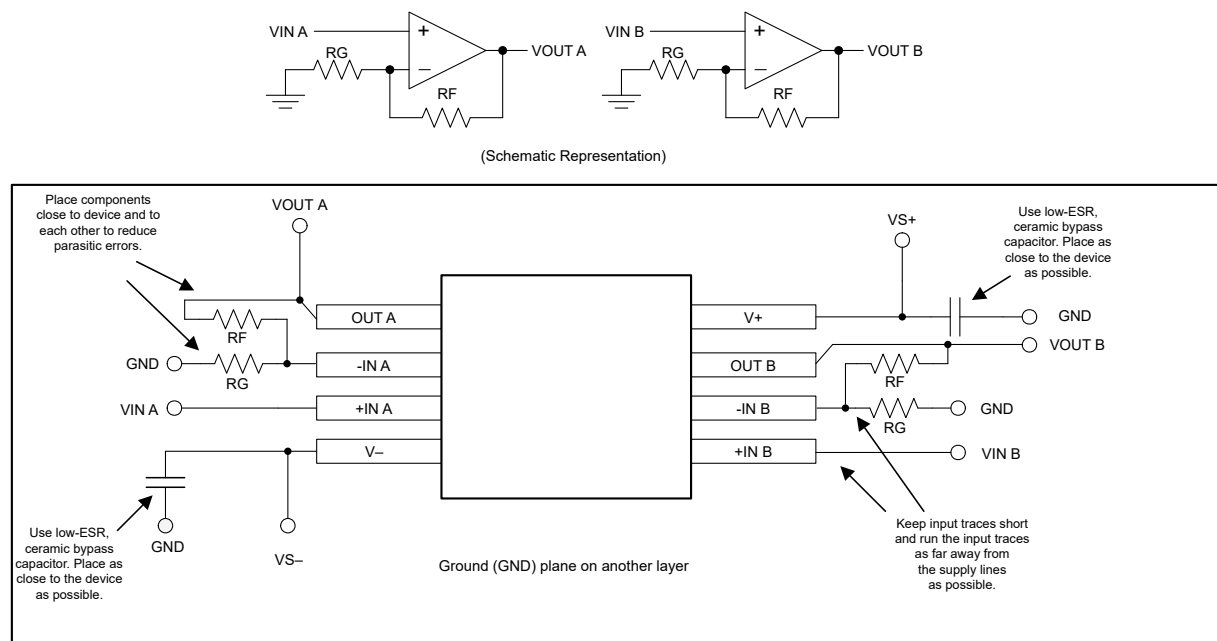

**Figure 8-8. Layout Recommendation for TLV2365 SOIC Package**
- Place the external components as close to the device as possible. Figure 8-8 shows that keeping  $R_F$  and  $R_G$  close to the inverting input minimizes parasitic capacitance.